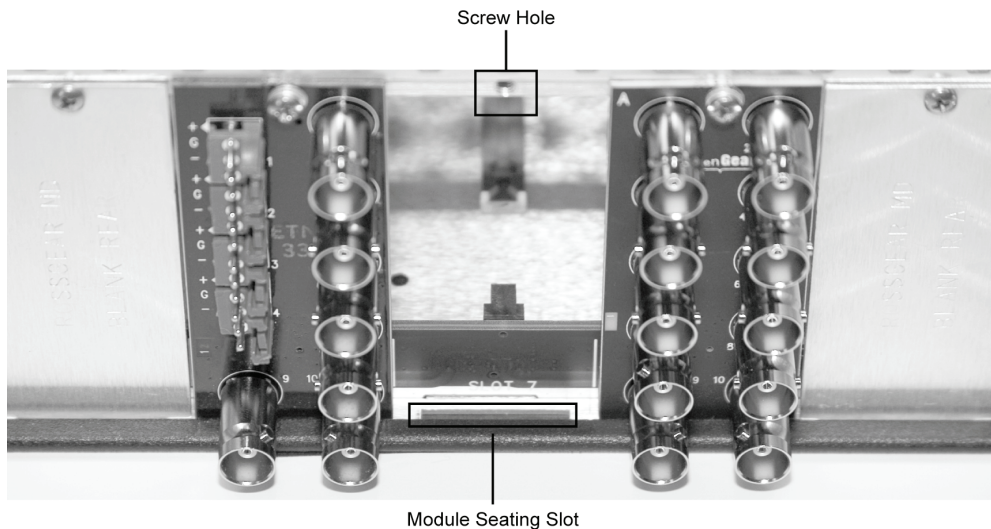

Figure 2.1 Rear Module Installation in a DFR-8310 Series Frame (Cards not shown)
4. As shown in **Figure 2.1**, seat the bottom of the rear module in the seating slot at the base of the frame's back plane.